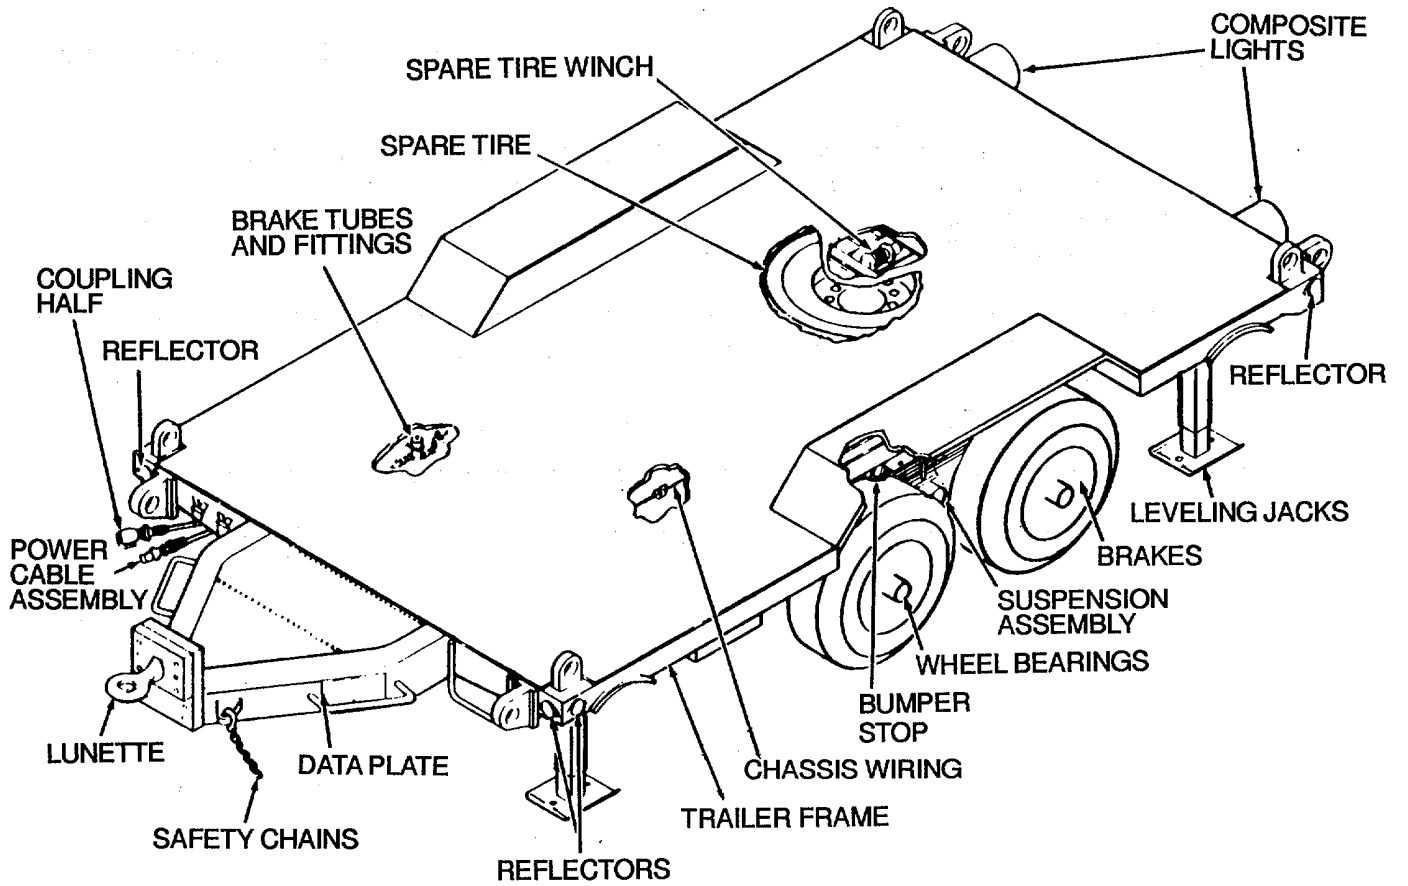
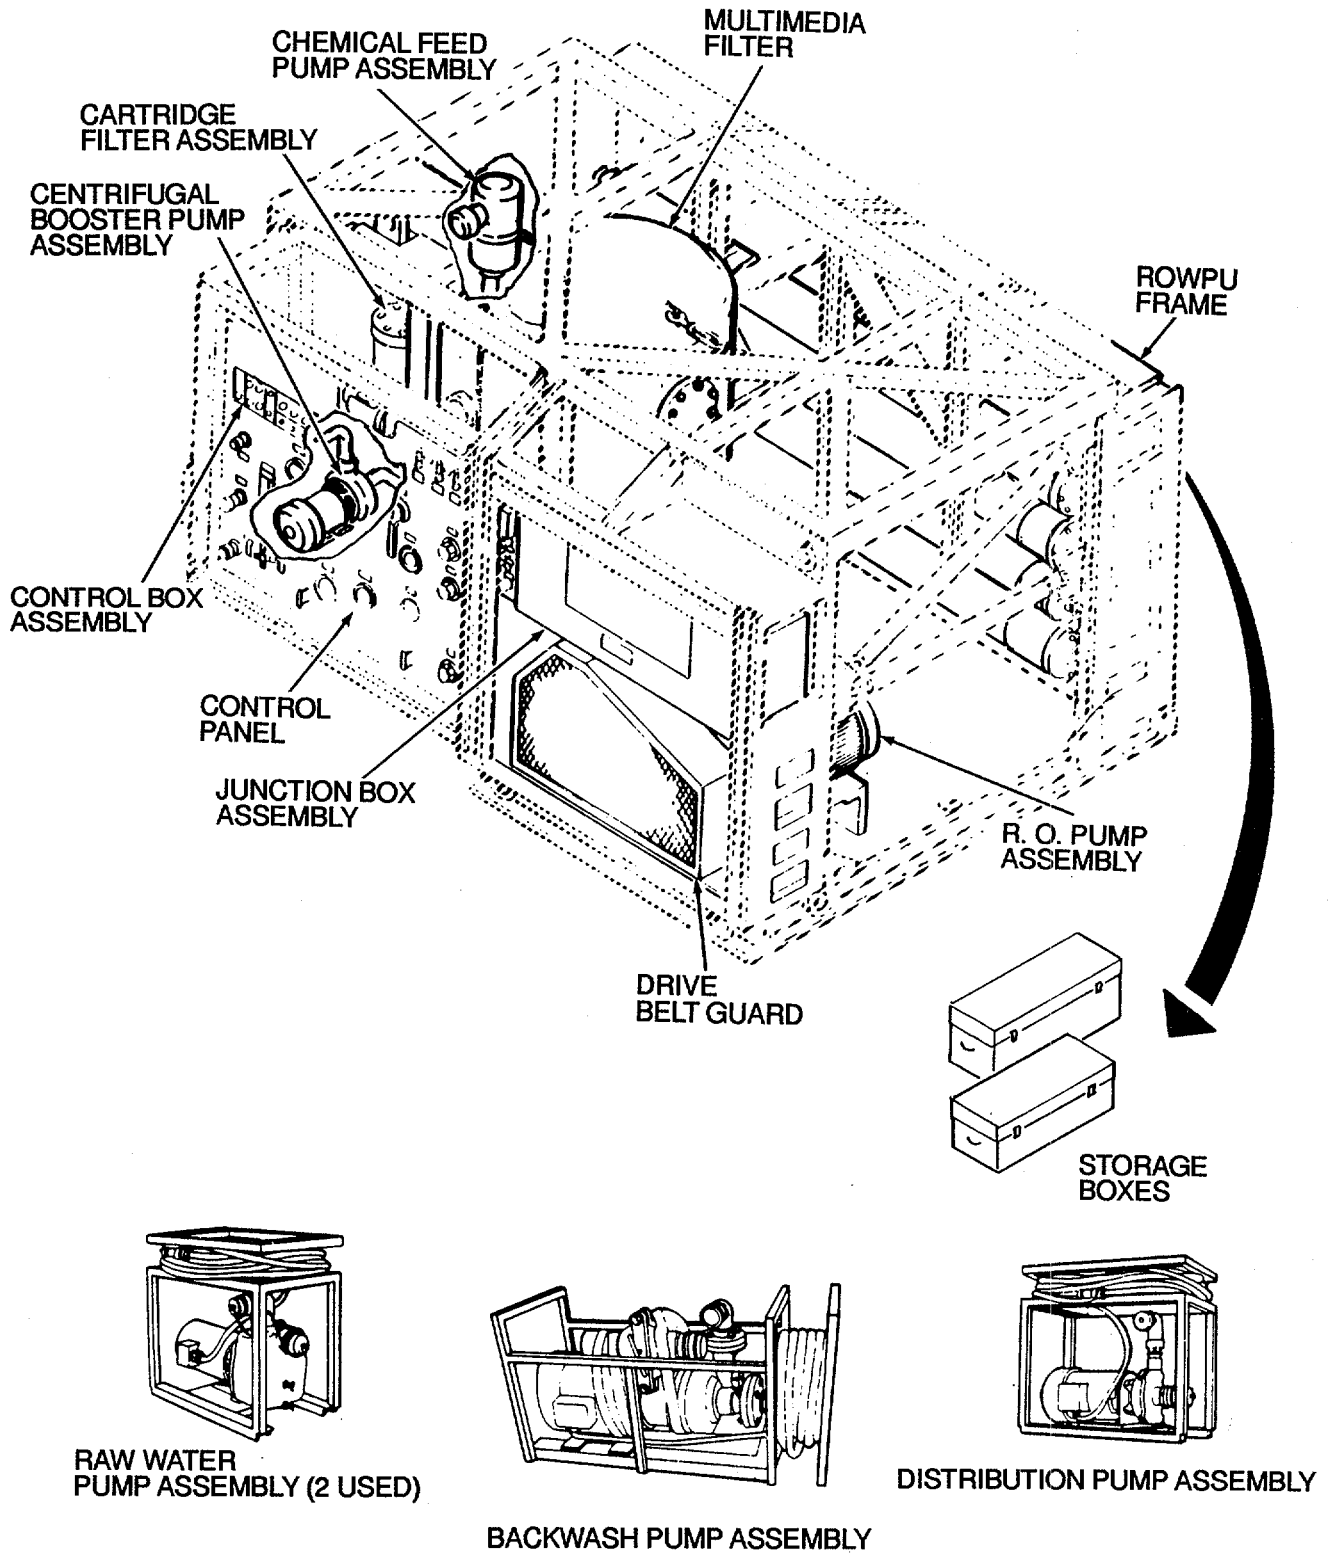

Figure 2-1. Flatbed Cargo Trailer
Figure 2-2. ROWPU
- a. PMCS Support Diagrams. Figure 2-1 gives location of components for the flatbed cargo trailer and figure 2-2 gives location of components for ROWPU.
- (1) Item No. This column gives the order in which the checks and services are to be done. Use these item numbers when filling out the TM Item No. column on DA Form 2404, Equipment Inspection and Maintenance Worksheet, or Marine Corps forms as prescribed by TM 4700-15/1.
- (2) Interval. These columns state, in calendar days, the amount of time between scheduled checks and services. A dot (•) is placed in the column that applies to each procedure.